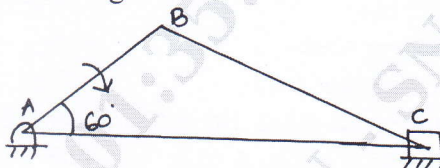

Fig.Q.3(b)
- b. In a slider crank mechanism the crank  $OB = 30\text{mm}$  and the connecting rod  $BC = 120\text{mm}$ . The crank rotates at uniform speed of 300rpm clockwise. For the crank position shown in Fig.Q.3(b) find: